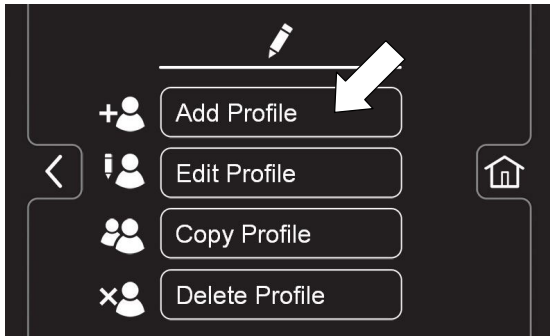

FIG. 141
2.  Press the “Add Profile” button to add a new user profile (Figure 141).